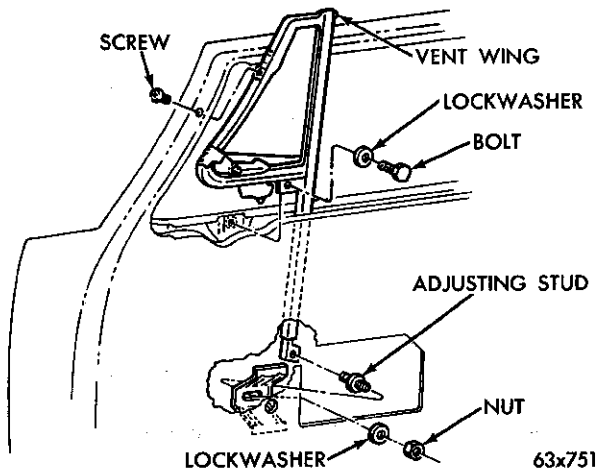

Fig. 14—Vent Wing Assembly (Chrysler)
- (1) Remove the remote control handle, trim panel, and garnish moulding.
- (2) Loosen the vent wing attaching bolts and divisional bar adjusting nut. (Fig. 14).
- (3) Position the vent wing assembly in the door opening to line up with the front door post and roof rail.
- (4) Tighten the attaching screws and divisional bar nut.
- (5) Inspect the vent wing for proper alignment.
- (6) Raise the window and inspect alignment with the roof rail and weatherstrip.